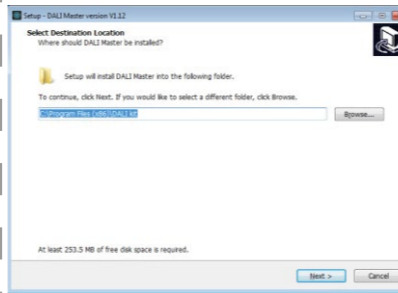

Figure 3 Installation Path
**Step 3:** Select installation path as shown in **Figure 3**.